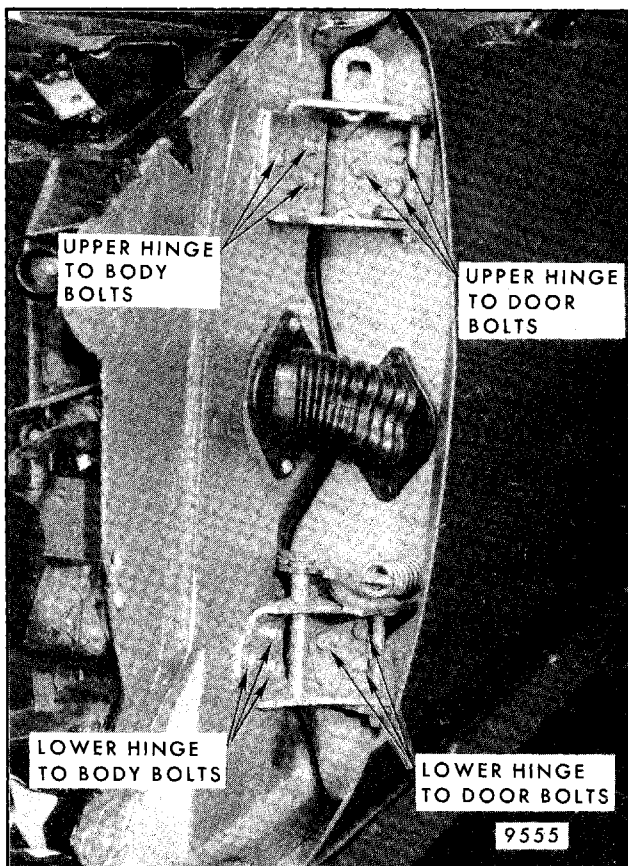

Fig. 5-88-Typical Front Door Bolt-On Hinge Attachment - All Except H and X Styles
3. With aid of a helper, support door in open position and remove upper and lower hinge to door hinge pillar attaching bolts (Fig. 5-88).
2. Support door in the full-open position and remove hinge to door and body hinge pillar attaching bolts (Fig. 5-88).